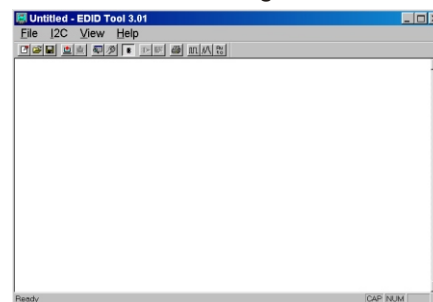

Fig. 6
4. Click OK button. The main menu appears (as shown in Fig. 6).